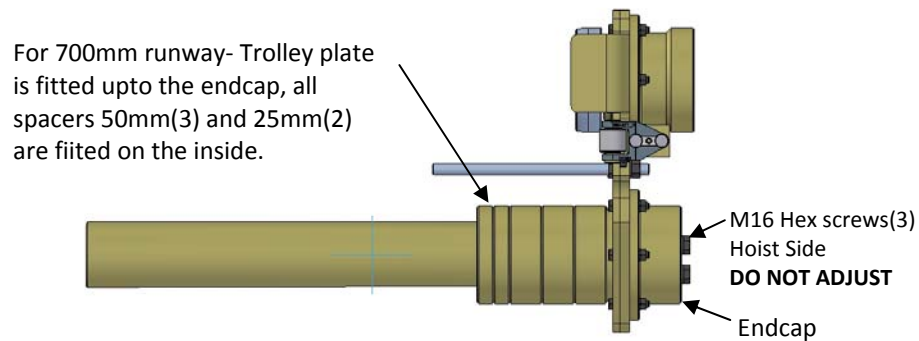

Figure 23 – Trolley Plate Assembly fitted for 700mm runway
- If the runway is 700mm refit the Trolley Plate Assembly upto the endcap, and fit the spacers on the inside, see Figure 23.
- Refit the complete Trolley Plate Assembly 'Hoist Side' including the axle and spacers (see Figure 23) into the hoist beam, use D shackle hole for suitable lifting equipment (Weight-150 kg).